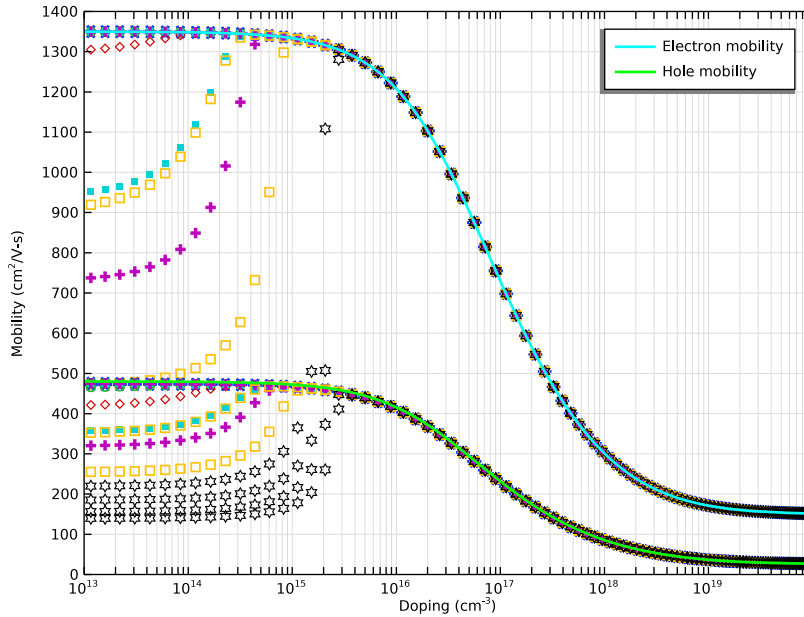

Fig. 2B Velocity vs. Electric Field
- 2 In the **Settings** window for **ID Plot Group**, type Fig. 2B Velocity vs. Electric Field in the **Label** text field.
- 1 In the **Model Builder** window, expand the **Fig. 2B Velocity vs. Electric Field** node, then click **Line Graph 1**.
- 1 In the **Model Builder** window, under **Results>Fig. 2B Velocity vs. Electric Field** click **Line Graph 3**.
- 9 In the **Fig. 2B Velocity vs. Electric Field** toolbar, click  **Plot**.